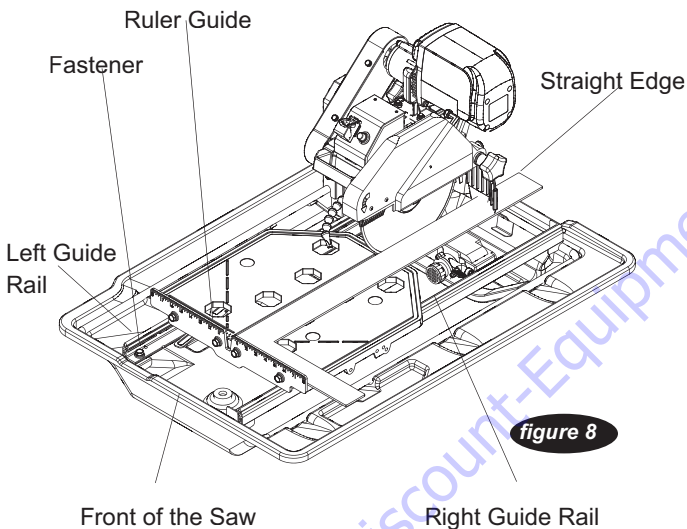

figure 8
2. Place a straight edge (i.e. carpenter's square) on the cutting table as shown in **figure 8**.
3. Loosen the left and right guide rails by loosening the fasteners at the ends of the rail. (**see figure 8**) The left rail should be slightly loose, so there is not too much play during adjustments, but the right rail should move freely.